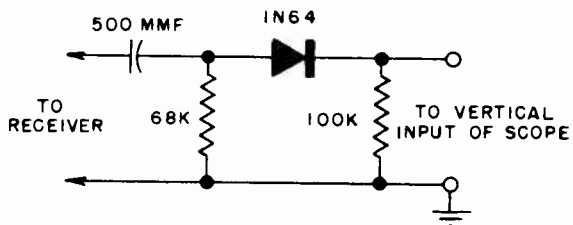

Fig. 25. Detector Network
1. The trap (L260, C271) is adjusted for minimum amplitude of the 4.5 mc marker. Use a detector network as shown in Figure 25, connected from junction of L264 and C275 to chassis to detect the signal.